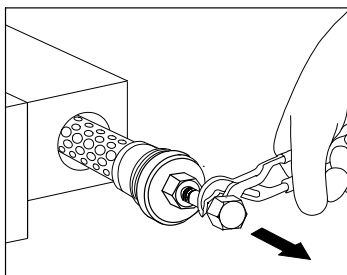

Fig. 5-8
6. Use pliers to remove the filter cartridge (Fig. 5-8).